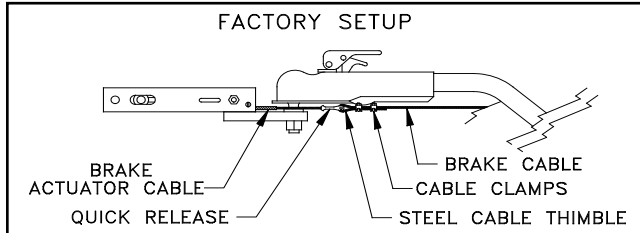
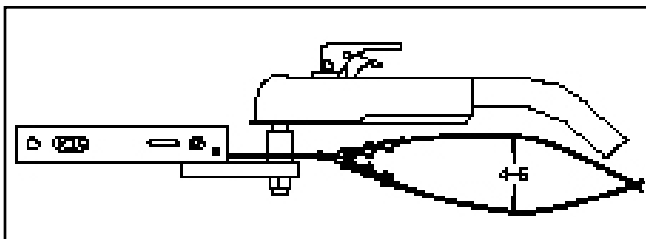

Figure 3
Figure 22
The AutoStop shown in Figure 3 is set up as it comes from the factory.
- Attach the cable thimble into the clevis on the AutoStop actuating cable with the quick release pin. (Figure 3 or 4) Run the loose end of the pedal cable through the clevis and thimble and secure this loop with the two cable clamps. Place the first clamp as close as possible to the thimble and the second cable clamp about four (4) inches from the first. Before tightening the clamps adjust the cable length so there is about four to five (4-5) inches of vertical play in the cable before the towed vehicle's braking lights come on. (Fig. 22) Cut off and discard any excess cable. **Recheck this adjustment after a short trial run.** If the towed vehicle's brake lights come on at the slightest touch of the cable, with the cable properly adjusted, the brake lights are coming on during pedal free travel. Most brake light switches are not adjustable, so install a bungee cord from the pedal to the driver's seat base to reduce the free travel movement of the pedal while towing.